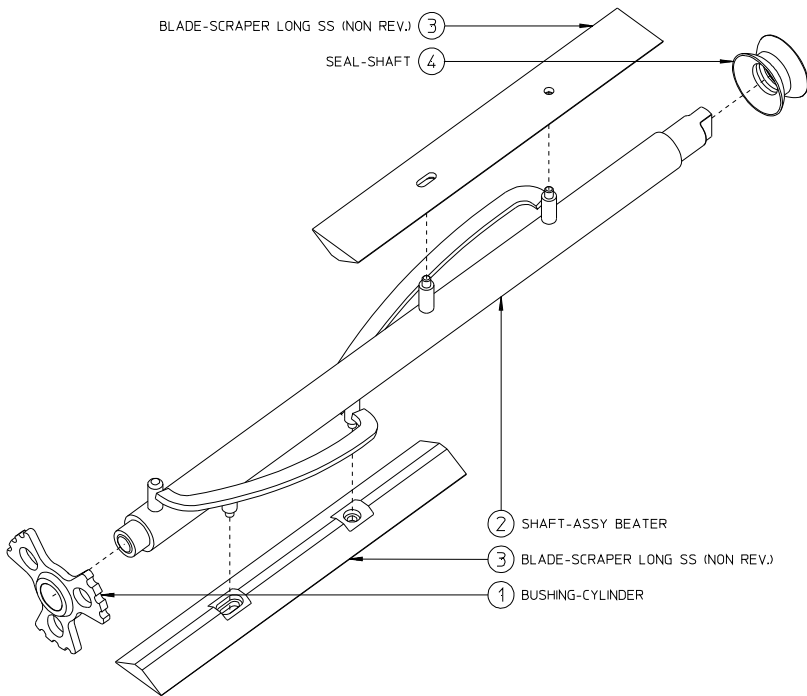

Figure 6-3 Beater Shaft Assembly
3. Remove the bushings (1, figure 6-3) and beater shafts (2) from the cylinders.
4. Remove scraper blades (3) and shaft seals (4) from the beater shafts.